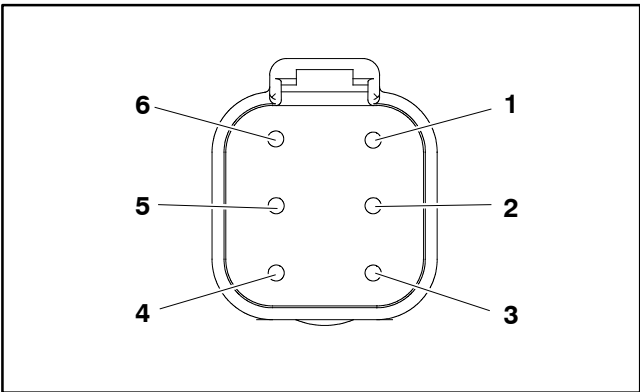

Figure 68
5. The protection diode (Fig. 68) can be tested using a digital multimeter (diode test or ohms setting) and the table to the right. Replace the protection diode if testing determines that it is faulty.